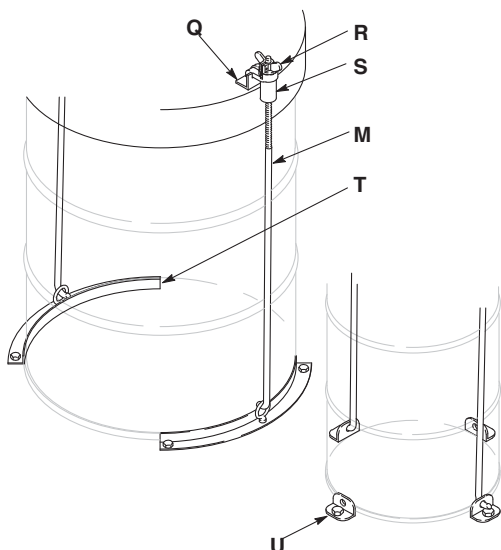

FIG. 6
2. Place the hold-down lugs (V) or drum locators (U) around the drum base and bolt directly to the truck bed or mounting platform (see FIG. 6).
3. Install shim (4) (if applicable for your model) on drum cover.
5. Align the drum cover eyelets (Q) with the hold down rods (T), install the cover brackets (S) and wing nuts (R) and tighten securely (see FIG. 6).
1. Insert the pump riser tube through the gasket (W) and drum cover (X). Fasten the Fire-Ball pump from the top side and the Fire-Ball pump from the bottom side.
2. Slide the rubber grommet (Y) tapered end down, onto the riser tube and push it up against the pump base.
3. Guide the pump riser tube through the drum bung hole (Z) and place the cover on the drum.
4. Align the drum cover eyelets (Q) with the hold down rods (T), install the cover brackets (S) and wing nuts (R) and tighten securely (see FIG. 6).